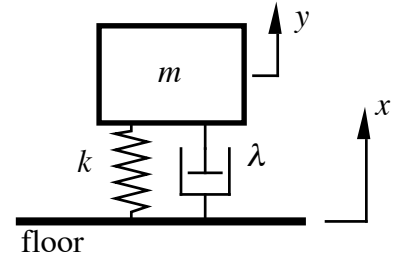

Fig. 5 (for Q. 8)
8. A mass m is supported on a spring of stiffness k in parallel with a dashpot of rate λ as shown in Fig. 5. The floor moves vertically with amplitude x and the mass responds with amplitude y . By considering the sum of forces acting on the mass, show that y is related to x by the differential equation